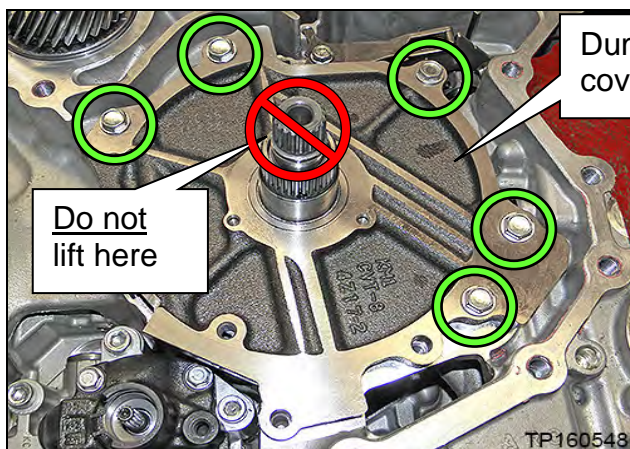

Figure 19B
13. Remove the five (5) dummy cover bolts, and then remove the dummy cover. See Figure 19B.
- Lift the dummy cover from sides **ONLY**. Do NOT lift from the input shaft (Figure 19B); this can lift the clutch pack out.